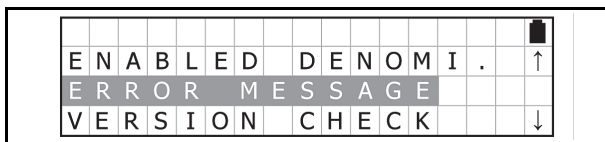

Figure 28 Function Selection Screen 4
2. Select the “ERROR MESSAGE” from the Function Selection Screen and press the OK Key to select it (See Figure 28).